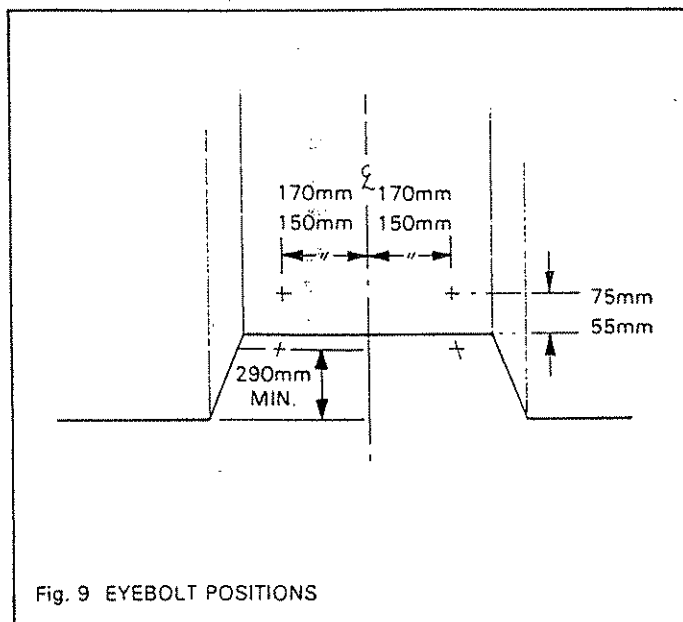

Fig. 9 EYEBOLT POSITIONS
7.1.2.1 Drill two holes in the rear wall or floor of the fireplace for the eyebolt plugs. The holes should be drilled within the range of positions shown in fig. 9 using a No. 12 masonry drill. The holes should be equidistant each side of the centre line of the fireplace to ensure that the appliance finishes centrally in the opening when tension is applied to the cables.